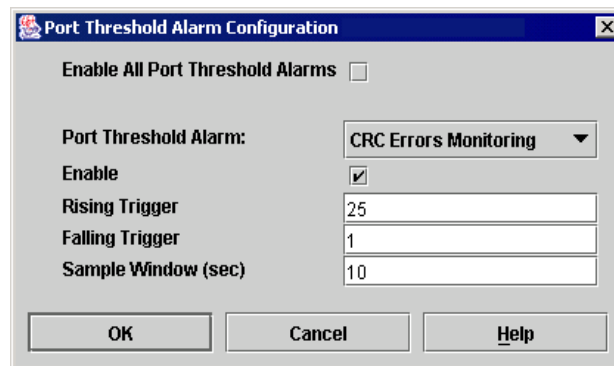

Figure 4-8. Port Threshold Alarm Configuration Dialog
1. In the faceplate display, open the Switch menu and select **Port Threshold Alarm Configuration**. The Port Threshold Alarm Configuration dialog shown in Figure 4-8 prompts you to enable or disable all alarms, select an event, set triggers, set a sample window and enable or disable an individual alarm.